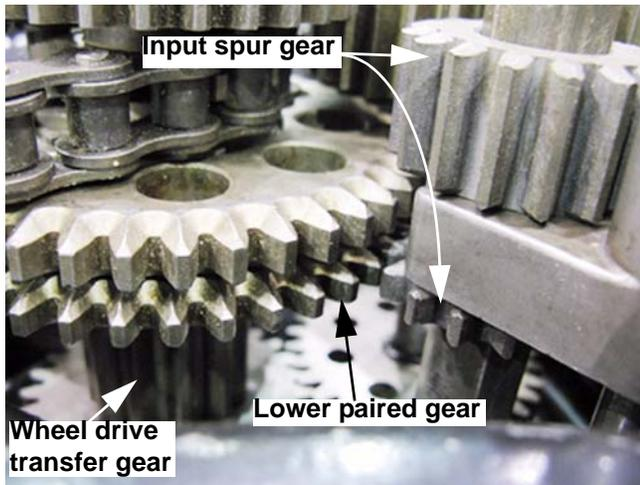

Figure 5.9
3. The lower set of teeth on the input spur gear turn the lower of the paired gears will turn Counter Clock Wise. See Figure 5.9.